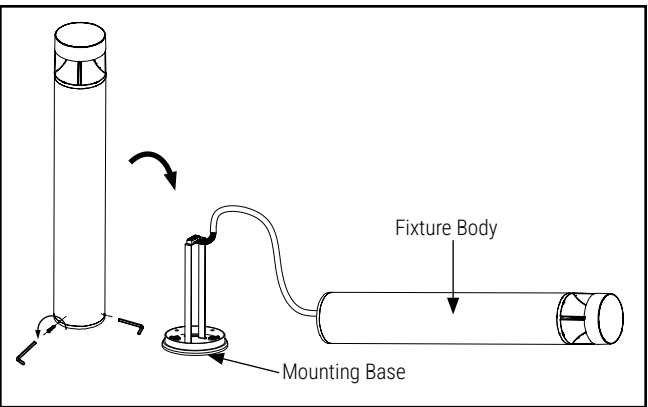

Figure 6.
6. Using the hex wrench, loosen the 3 screws on the side of the bottom, and separate the fixture body from the mounting base. Fig. 6.